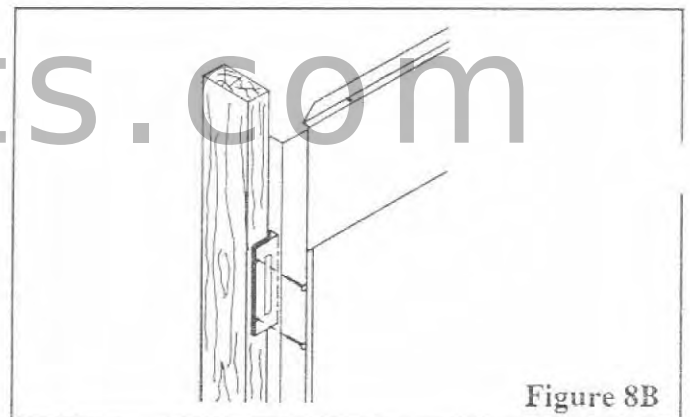

Figure 8B
STEP 4: Secure the fireplace to the framing at the mounting flanges as shown in Figure 8B.